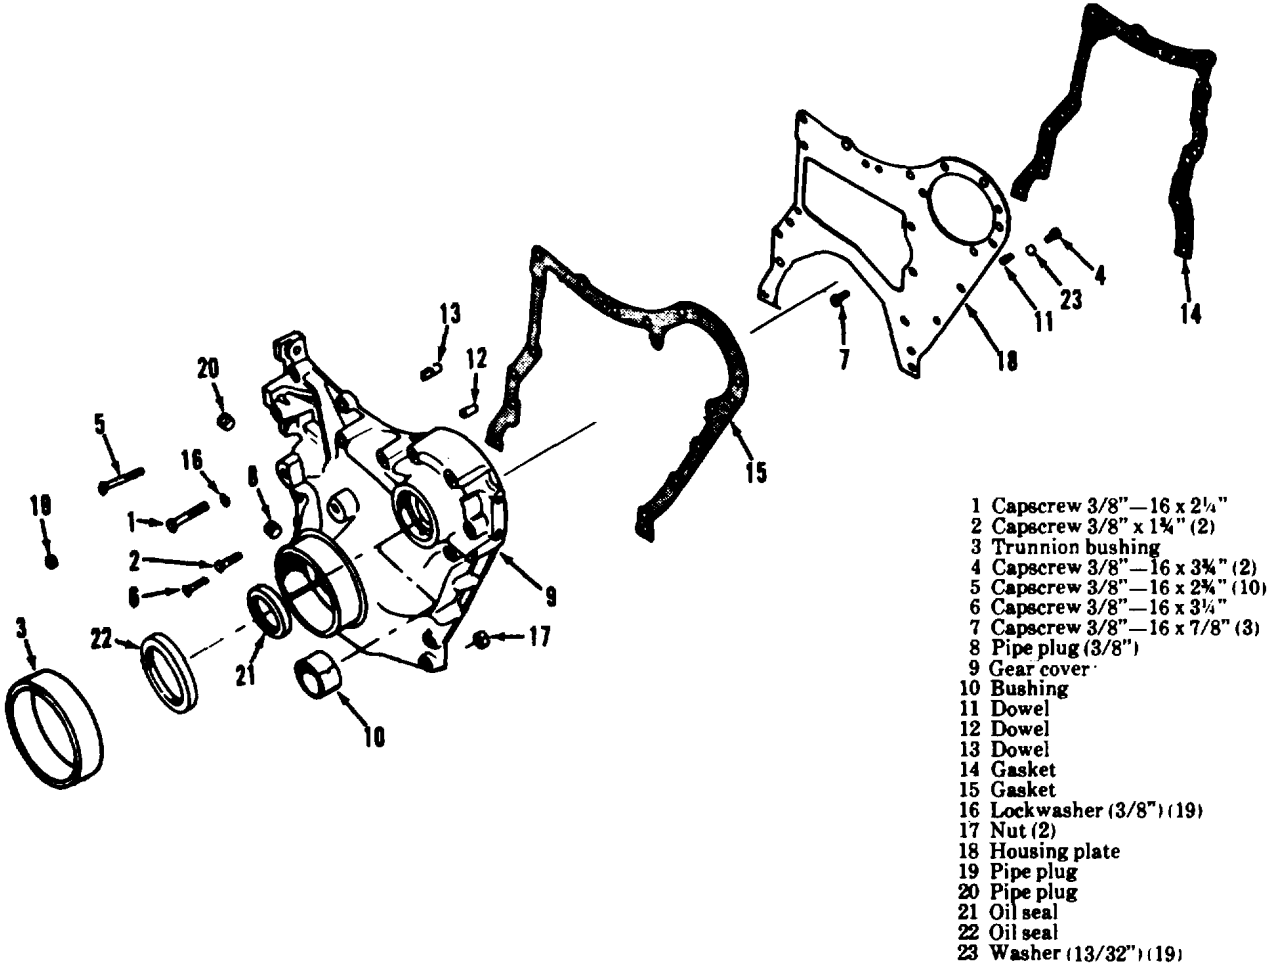

Figure 3-183.
(1) Inspect gear cover for cracks or other defects.
(2) Remove all oil seal and bearings. (8) Inspect gear trunnion outside diameter (fig. 3-183) for wear. If excessive, install a bushing as described in subparagraph c.
(4) Inspect accessory drive bushing. Replace if inside diameter exceeds 1.322 inches.
(a) Machine gear case trunnion to 4.747/4.750 in. outer diameter, figure 3-183.